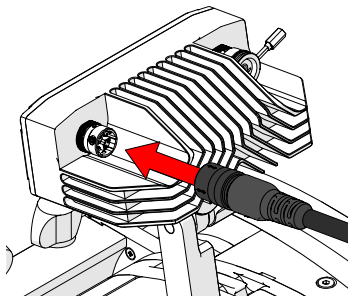

Fig. 25 - Connect crawler powered camera cable to the camera
2. Connect the crawler powered camera cable to the left side receptacle of the camera (Fig. 25).